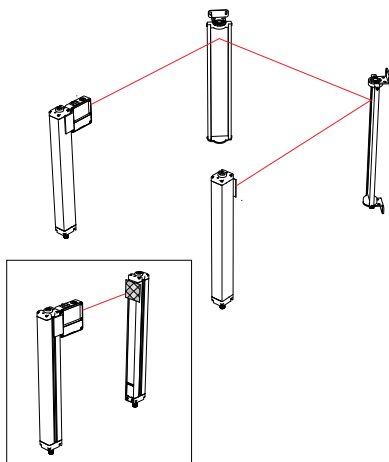

Figure 14. Optical alignment using the LAT-1-LS
**Note:** A LAT-1-LS Laser Alignment Tool is very helpful by providing a visible red dot along the optical axis. See Figure 14 on page 28 and Banner Safety Applications Note SA104 (p/n 57477) for further information.